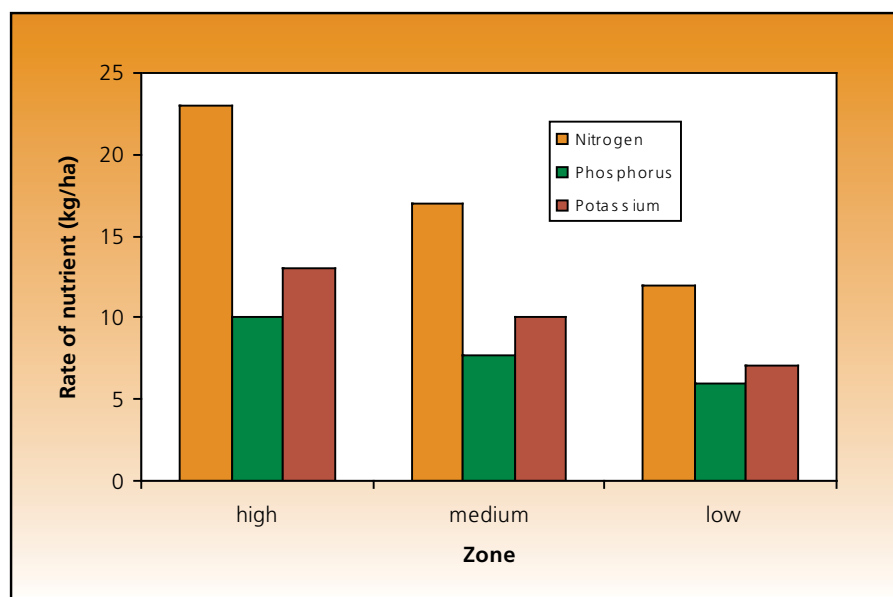

Figure 1. Rates of nutrient applied in each zone in an example paddock from David Fulwood's farm.
Variable rate application of starter fertiliser and top-dressing only occurs on the cereal portion of the cropping program. David used variable rates of fertiliser on paddock zones in 2005 and 2006. An estimate was made of the benefits of variable rates of nitrogen (N), phosphorus (P) and potassium (K) on seven cereal paddocks where yield maps were collected at harvest in 2005. The average yield in each fertiliser zone was determined using the boundaries of the zones overlaid on the yield maps and yields assumed under uniform management. Typical rates of N, P and K applied to one paddock are shown in Figure 1.